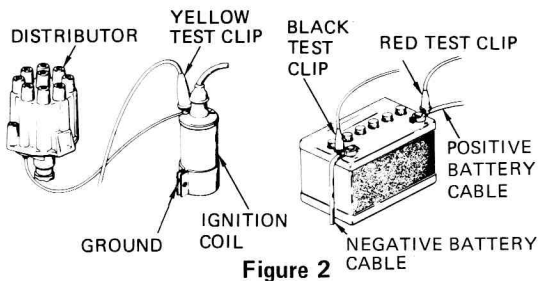

Figure 2
POINTS, DWELL AND RPM TESTS (Figure 2)
1. Connect leads for Points Dwell, RPM test. Figure 2.
1. Set the selector switch to the DWELL position and connect the leads for Points, Dwell, RPM Test. Figure 2.
1. Set the selector switch to the Lo RPM position and set the cylinder selector switch to the correct position for your car. Connect the leads for the Points, Dwell RPM Test. Figure 2.